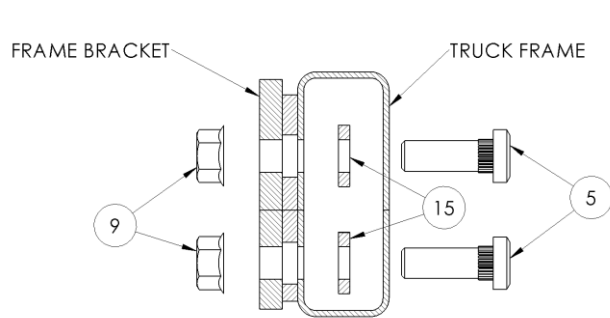
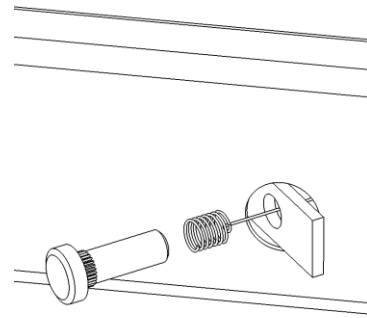

Figure 7
Figure 8
10. Carefully pull the straight end of the pull wire out of the frame and also guide the spacer plate into the hole/slot first and then the wheel bolt, see Figure 8. Continue to pull the pull wire until you can pull the threaded end of the wheel bolt out of the 17/32" diameter hole, see Figure 7. Hold the wheel bolt and un-screw the pull wire from it and then thread the lock nut onto the wheel bolt. Repeat steps 9 and 10 for each of the other spacer plates and wheel bolts.